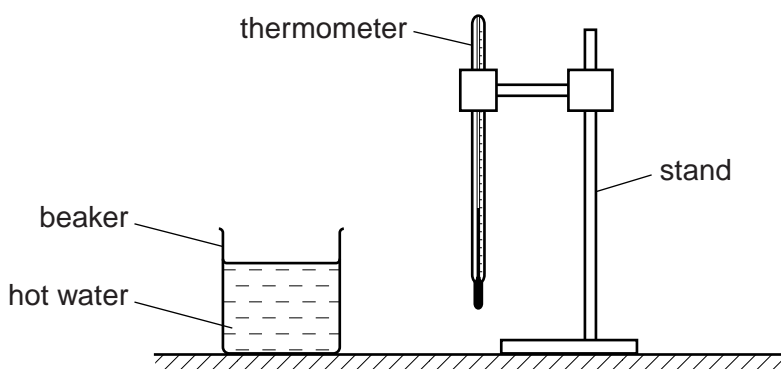

Fig. 2.1
1. The beaker of hot water, thermometer, clamp, boss, and stand are to be set up for the candidates as shown in Fig. 2.1.
Empty the beaker. Refill the beaker with hot water. Return the thermometer to the vertical position, as shown in Fig. 2.1.